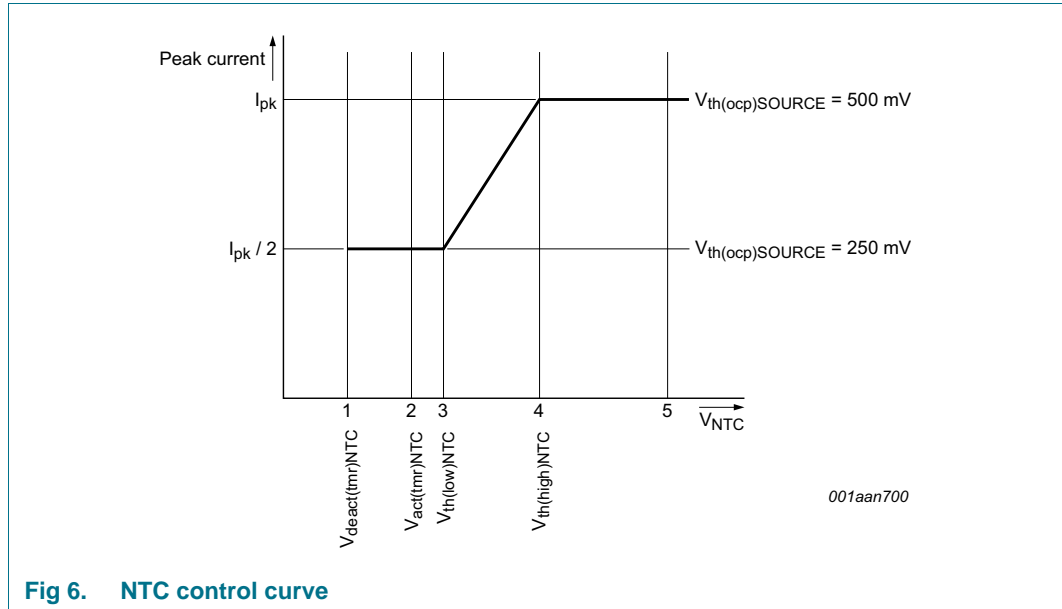

Fig 6. NTC control curve
The NTC pin can be used as a control method for LED thermal protection. Alternatively, the pin can be used as an input to disable/enable light output using a digital signal (PWM regulation). The pin has an internal current source that generates the current of $I_{\text{offset}(\text{NTC})}$. An NTC resistor to monitor the LED temperature can be connected directly to the NTC pin. Depending on the resistance value and the corresponding voltage on the NTC pin, the converter reacts as shown in Figure 6.
When the voltage on the NTC pin exceeds $V_{th(\text{high})\text{NTC}}$ (see Figure 6 \(4\)), the converter delivers nominal output current. When the voltage is lower than this level, the peak current is gradually reduced until $V_{th(\text{low})\text{NTC}}$ is reached (see Figure 6 \(3\)). The peak current is now half the peak current of nominal operation. When $V_{act(\text{tmr})\text{NTC}}$ is passed (see Figure 6 \(2\)), a timer starts to run to distinguish between the following situations:
- If the low-level $V_{deact(\text{tmr})\text{NTC}}$ is not reached within time $t_{to(\text{deact})\text{NTC}}$ (see Figure 6 \(1\)), LED overtemperature is detected. The IC stops switching and attempts to restart from the HV pin voltage. The converter restarts from an NTC protection shutdown when the voltage on the NTC pin exceeds $V_{th(\text{high})\text{NTC}}$ (see Figure 6 \(4\)). It is assumed that the reduction in peak current does not result in a lower NTC temperature and LED OTP is activated.
- If the low-level $V_{deact(\text{tmr})\text{NTC}}$ is reached within the time $t_{to(\text{deact})\text{NTC}}$ (see Figure 6 \(1\)) it is assumed that the pin is pulled down externally. The restart function is not triggered. Instead, the output current is reduced to zero. PWM regulation and consequently LED output current regulation can be implemented this way. The output current rises again when the voltage exceeds $V_{th(\text{low})\text{NTC}}$.
The NTC pin can be used to make a soft start function. During switch-on, the level on the NTC pin is low. By connecting a capacitor (in parallel with the NTC resistor), a time constant can be defined. The time constant causes the level on the NTC pin to increase slowly. When passing level $V_{th(\text{low})\text{NTC}}$ (see Figure 6 \(3\)), the converter starts with half of the maximum current. The output current slowly increases to maximum when $V_{th(\text{high})\text{NTC}}$ (see Figure 6 \(4\)) is reached.